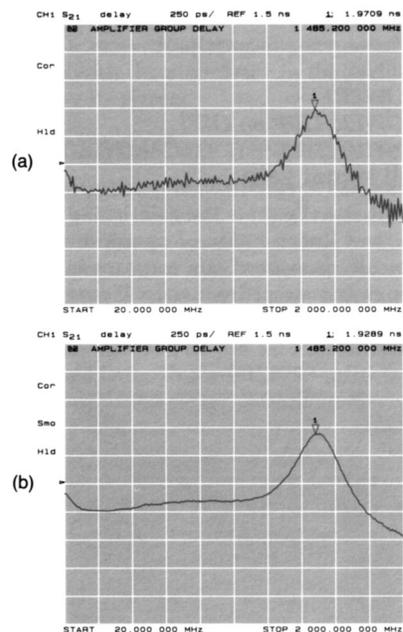

Figure 9. Group delay measurement: (a) with minimum aperture and (b) with increased aperture
Group delay, like deviation from linear phase, is a measure of amplifier distortion. The 8753 calculates group delay from the phase and frequency information and displays the results in real time. (See Figure 9.) It is important to keep the phase difference measured between two adjacent frequency points less than 180° . Otherwise, incorrect group delay information may result. The test setup of Figure 3 is again employed.
3. This measurement may require a specific group delay aperture. The minimum aperture is equal to the frequency span divided by the number of points minus one. (See Figure 9-a.) Aperture can be increased from the minimum by varying the smoothing aperture. Increasing the aperture reduces the resolution demands on the phase detector and permits better group delay resolution. (See Figure 9-b.)